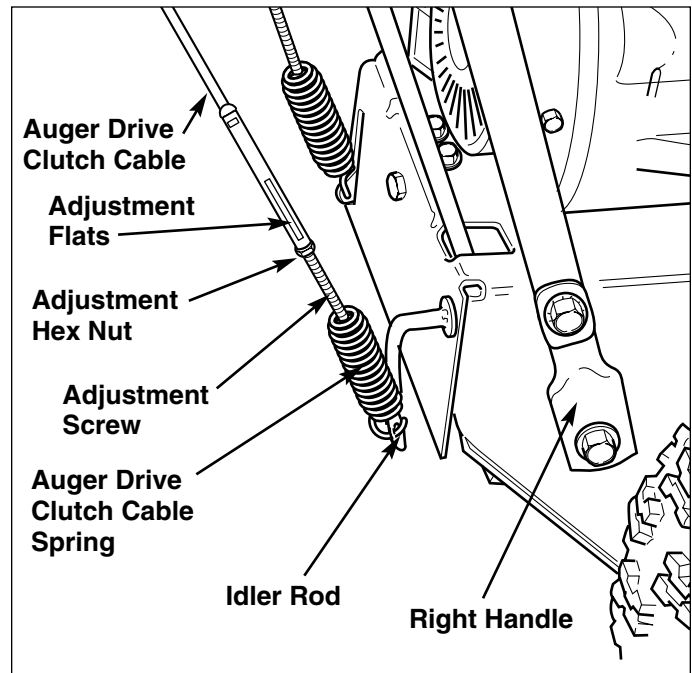

Figure 23. Auger Drive Clutch Cable Adjustment
*NOTE: If the discharge chute will not stay in position, adjust the pinion gear (A) closer to the ring gear (F).*
1. Loosen the nut (G, Figure 23) which holds the pinion gear bracket in the slotted hole.
1. Loosen adjustment hex nut (Figure 23) by holding the adjusting flats and turning adjustment hex nut .